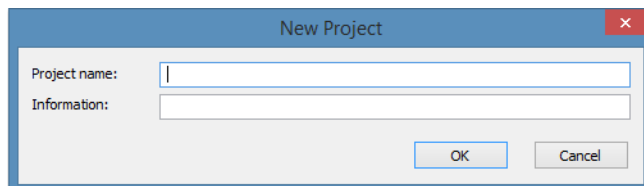

Figure 4-69: New Project Dialog Box
2. Select **New Project** to display the New Project dialog box (Figure 4-69).